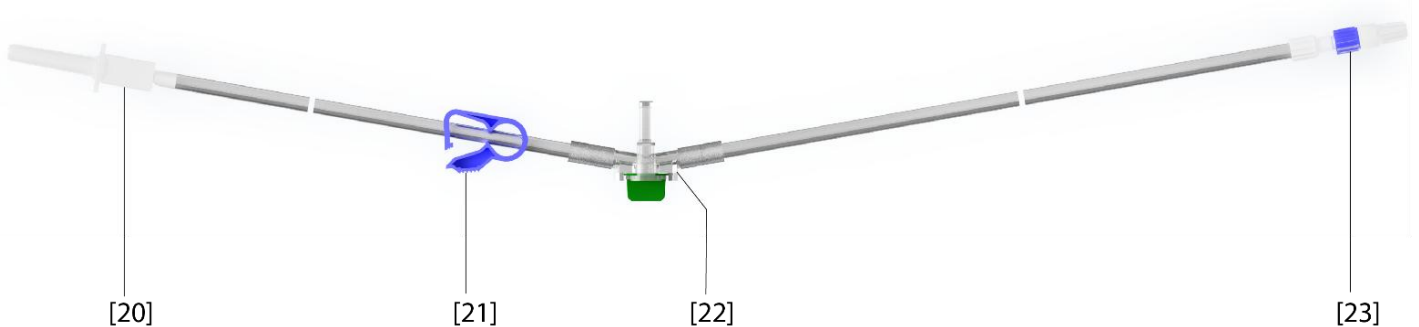

Figure 6 – Tube set for irrigation
- One irrigation tube (Figure 6),